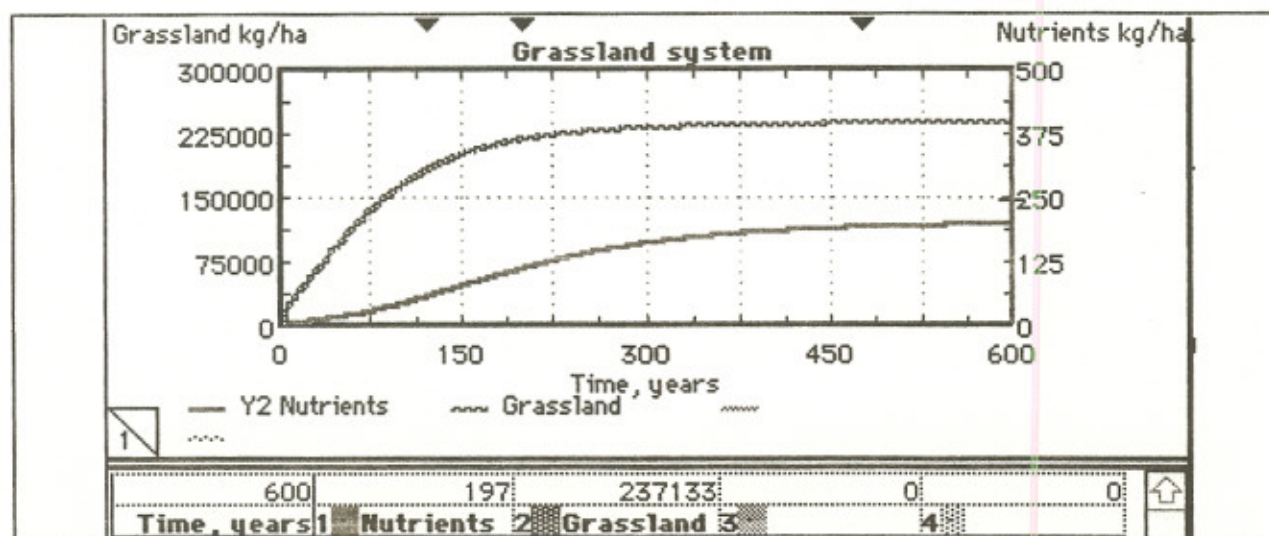

Figure 25. Graph of grassland growth, recording grassland biomass and quantity of soil nutrients.
3. Run the simulation. You should get a graph that looks like the one in Figure 25.
When the graph of biomass in Figure 25 levels off, there is a balance of growth and decomposition, of production and consumption. This is the **carrying capacity** of the grassland. Remember the discussion of carrying capacity in the pond? It is similar in most ecosystems: succession increases biomass and diversity until the carrying capacity is reached.
2. Set the Grassland dialog box at the steady state level from Figure 25.
3. In the Nutrients dialog box, leave the Nutrients flowing in the rain at 2 kg/ha and change the soil nutrients to the steady state from Figure 25.